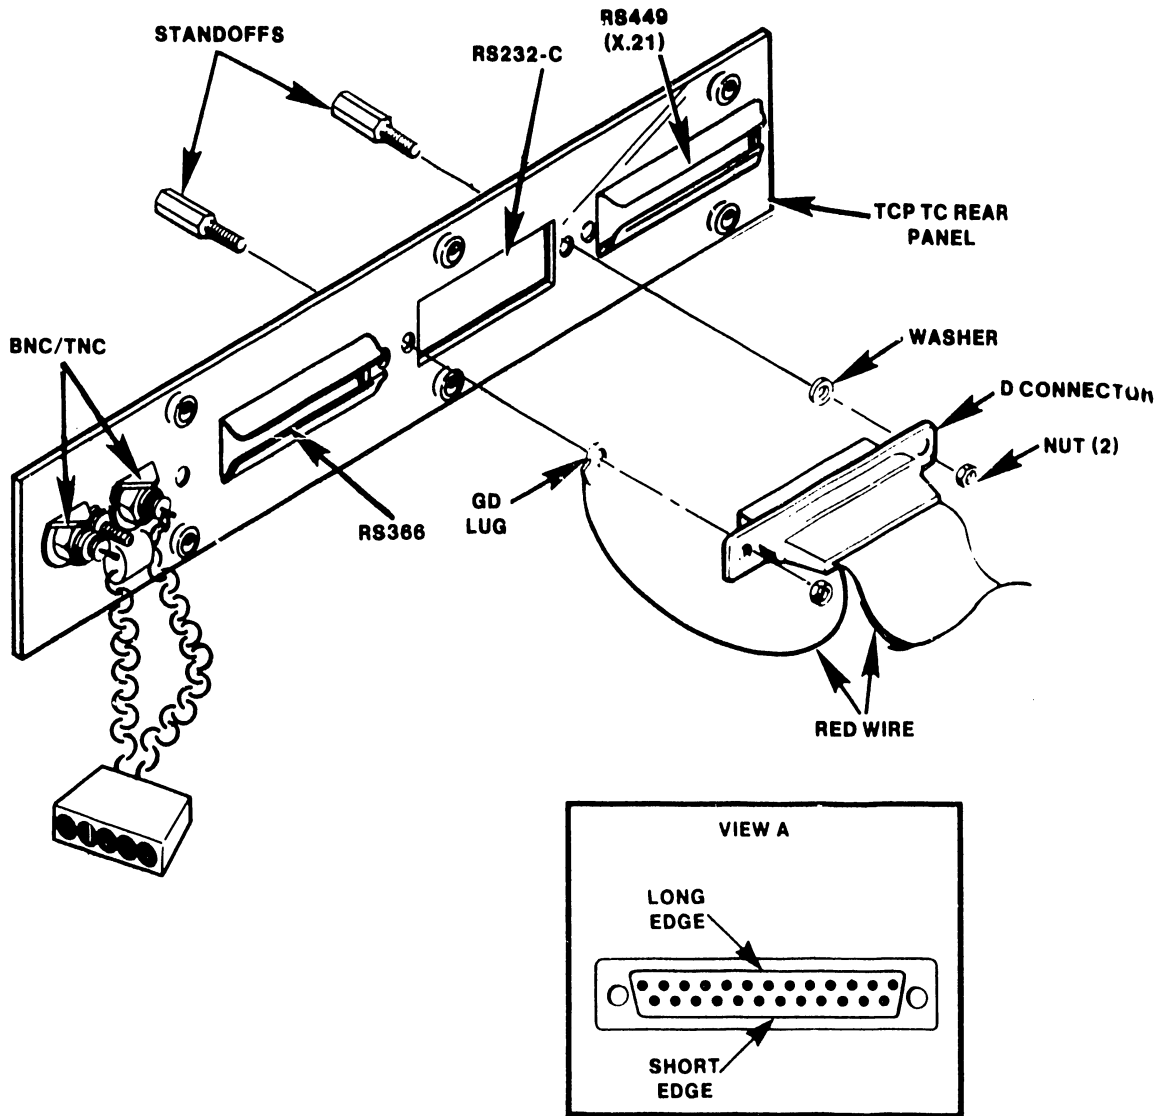

Figure 4-31 RS 232-C or RS-366 Interface Cable Installation
1. Position the TC rear panel as shown in Figure 4-31 (internal side of TC rear panel).
2. Align the interface cable "D" connector behind the panel slot labeled RS-232-C or RS-366. Position the connector such that the long edge of the "D" connector is on the top (see Figure 4-31).
3. Insert two threaded standoffs (P/N 478-0791) through the TC rear panel screw holes and the "D" connector as shown in Figure 4-31.
4. Install the red wire ground lug and washer on the standoffs (back side of the "D" connector) as shown in Figure 4-31.